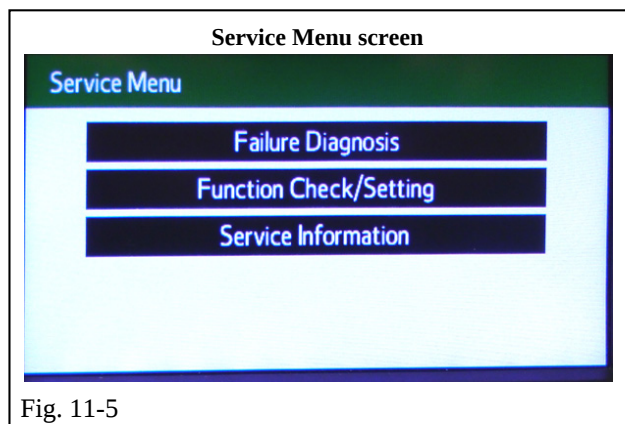

Fig. 11-5
NOTE: To perform the following function tests, you will need to enter the DA Service Menu (Fig. 11-5).
- (4) The Service Menu screen will appear (Fig. 11-5).
- (5) If the Service Menu screen does not appear, repeat Steps 2 and 3.